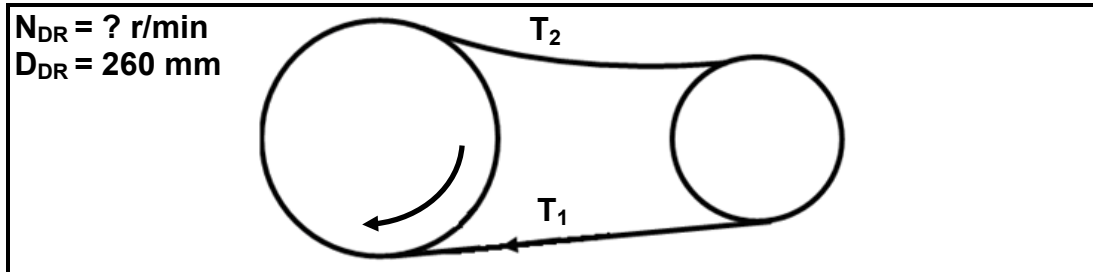

FIGURE 9.2
- 9.2 FIGURE 9.2 below shows a belt drive system with a 260 mm driver pulley. The belt speed of the system is $40 \text{ m}\cdot\text{s}^{-1}$. The tensile force in the slack side is 140 N and the ratio between the force in the tight side and the force in the slack side is 2,5.